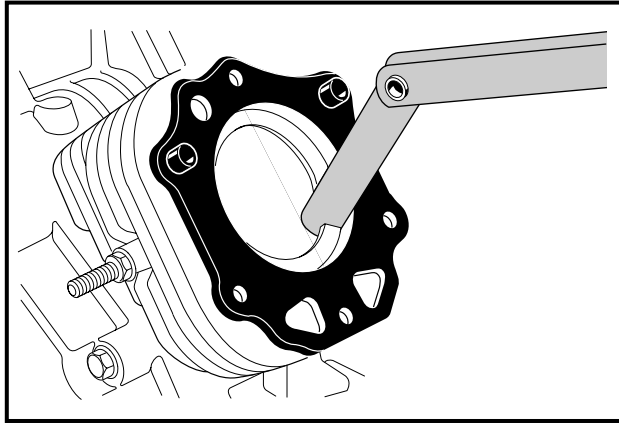

Figure 13-53 Measure Ring End-Gap
2. Using a feeler gauge, measure the ring end-gap (**Figure 13-53, Page 13-28**).